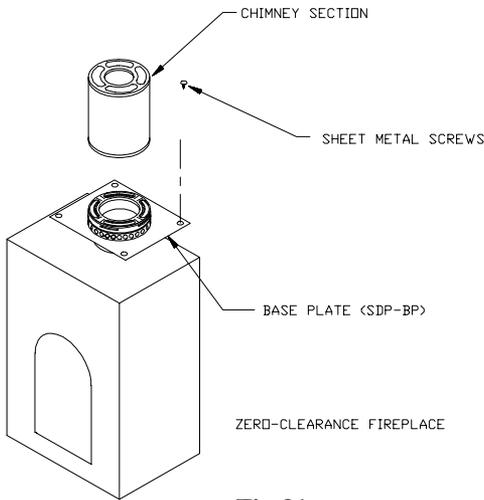

Fig 31
2. Base Plate: Attach a **Base Plate** to the fireplace top with sheet metal screws. (Figure 31). A high temperature sealant may be used if desired.